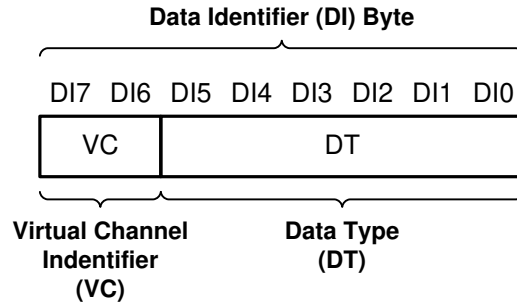

Figure 7-10. CSI-2 Data Identifier Structure
The DS90UB962-Q1 MIPI CSI-2 protocol interface transmits the data identifier byte containing the values for the virtual channel ID (VC) and data type (DT) for the application specific payload data, as shown in Figure 7-10. The virtual channel ID is contained in the 2 MSBs of the data identifier byte and identify the data as directed to one of four virtual channels. The value of the data type is contained in the 6 LSbs of the data identifier byte. When partnered with a DS90UB935-Q1 serializer, the Data Type is passed through from the received CSI-2 packets. When partnered with a DS90UB933-Q1 or DS90UB913A-Q1 the received RAW mode data is converted to CSI-2 Tx packets with assigned data type and virtual channel ID.